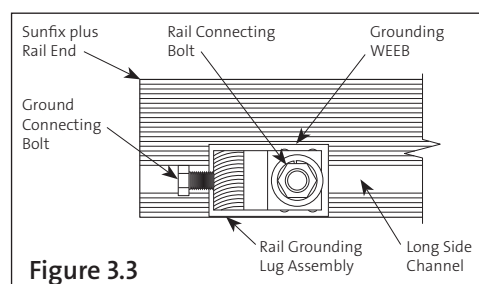

Figure 3.3
- 3.3. At the end of each row attach the Rail Grounding Lug Assembly ⑧ similar to steps 2.1 and 2.2. Be sure to install Rail Grounding Lug Assembly parallel to rail, ensuring the teeth of the grounding WEEB firmly "bite" into rail. Torque rail-connecting bolt to 12 ft-lbs using general purpose anti-seize compound. After inserting grounding wire, torque ground-connecting bolt to 7 ft-lbs. Refer to **Figure 3.3**.